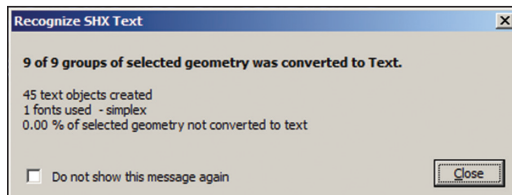

FIGURE 10.19 The number of text objects created and the font used is reported in the Recognize SHX Text dialog box.
4. Select Recognition Settings on the Insert tab’s Import group. Select Simplex because this was the font used to generate the text that was exported as geometry to the PDF file (see Figure 10.18). Click OK. Type C and press Enter to specify a crossing selection window. Make a crossing window from the lower right to the upper left to encompass all the geometric text, including the paragraph numbers, and press Enter. Figure 10.19 shows the resulting message.